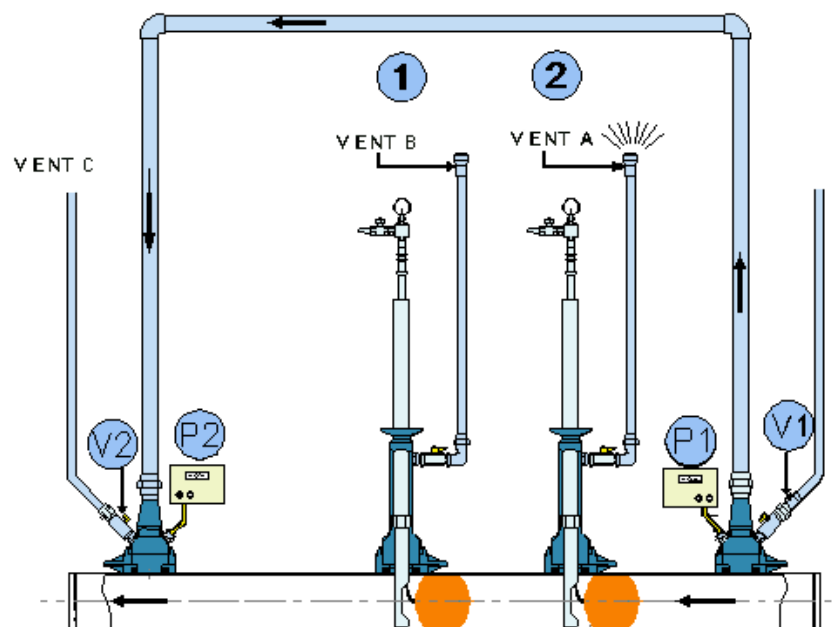

Figure 91- Installation of Bag2 (Upstream Primary) and Venting Between Bag No1 and Bag no 2
11. Check pressures at P1 and P2 are stable and then insert Bag No2. (see Figure 91)
15. If there is no discernible gas venting from vent 'A' move to item 16.